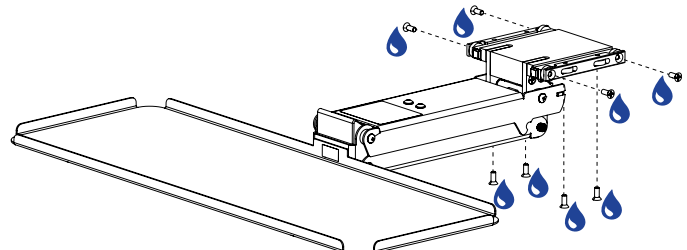

Figure 9: Installing the new hardware of the keyboard tray
11. Install the eight (8) ball-bearings (Figure 9 A), and eight (8) 10-32 in. X 1/2 in. flat head Phillips screws coated with medium strength thread lock adhesive (Figure 9 B) included in the replacement kit, then tighten using a Phillips screwdriver #2 and a torque wrench.